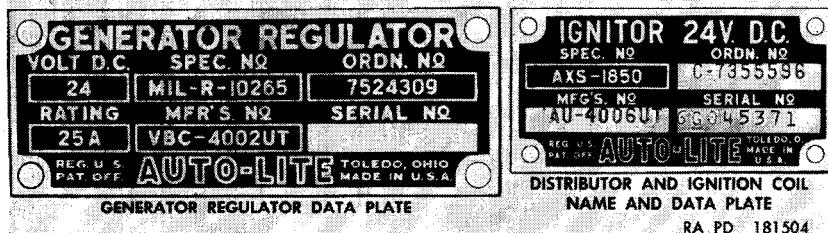

Figure 6. Data plates and engine serial number location.
- (5) *Distributor and ignition coil assembly name and data plate* (fig. 6). The distributor and ignition coil assembly name and data plate is located on the right side of distributor and ignition coil assembly. The plate includes manufacturer's name, model number, and voltage data.
- (8) *Generator regulator data plate* (fig. 6). The generator regulator data plate is located on the left side of the generator regulator base. The plate gives data on voltage rating, capacity and serial, model, and ordnance numbers.
(1) Engine serial number (fig. 6). The engine serial number is stamped on the engine cylinder block behind the water pump and below the thermostat housing at the front of the engine.
- (5) *Generator regulator name*. The generator regulator name is stamped on the top of the generator regulator cover.
- (6) *Front axle shaft identification plate* (fig. 6). This plate is held by two of the screws securing the steering knuckle oil seal assembly, and identifies the type of joint used in the front axle.